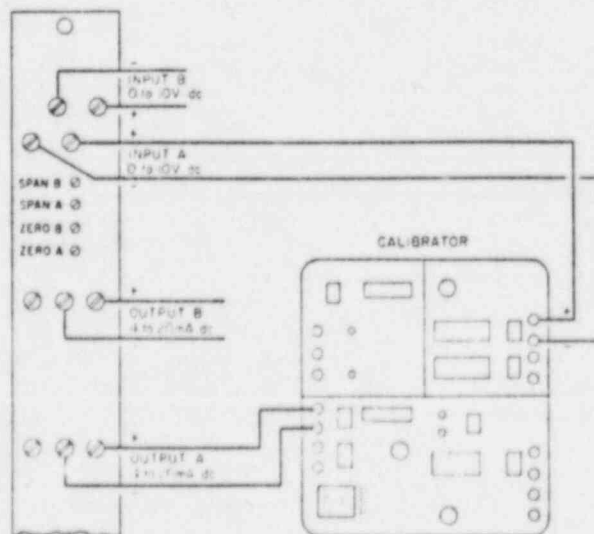

FIGURE 8
1. Connect Calibrator at input and output terminals as shown in Figure 8.